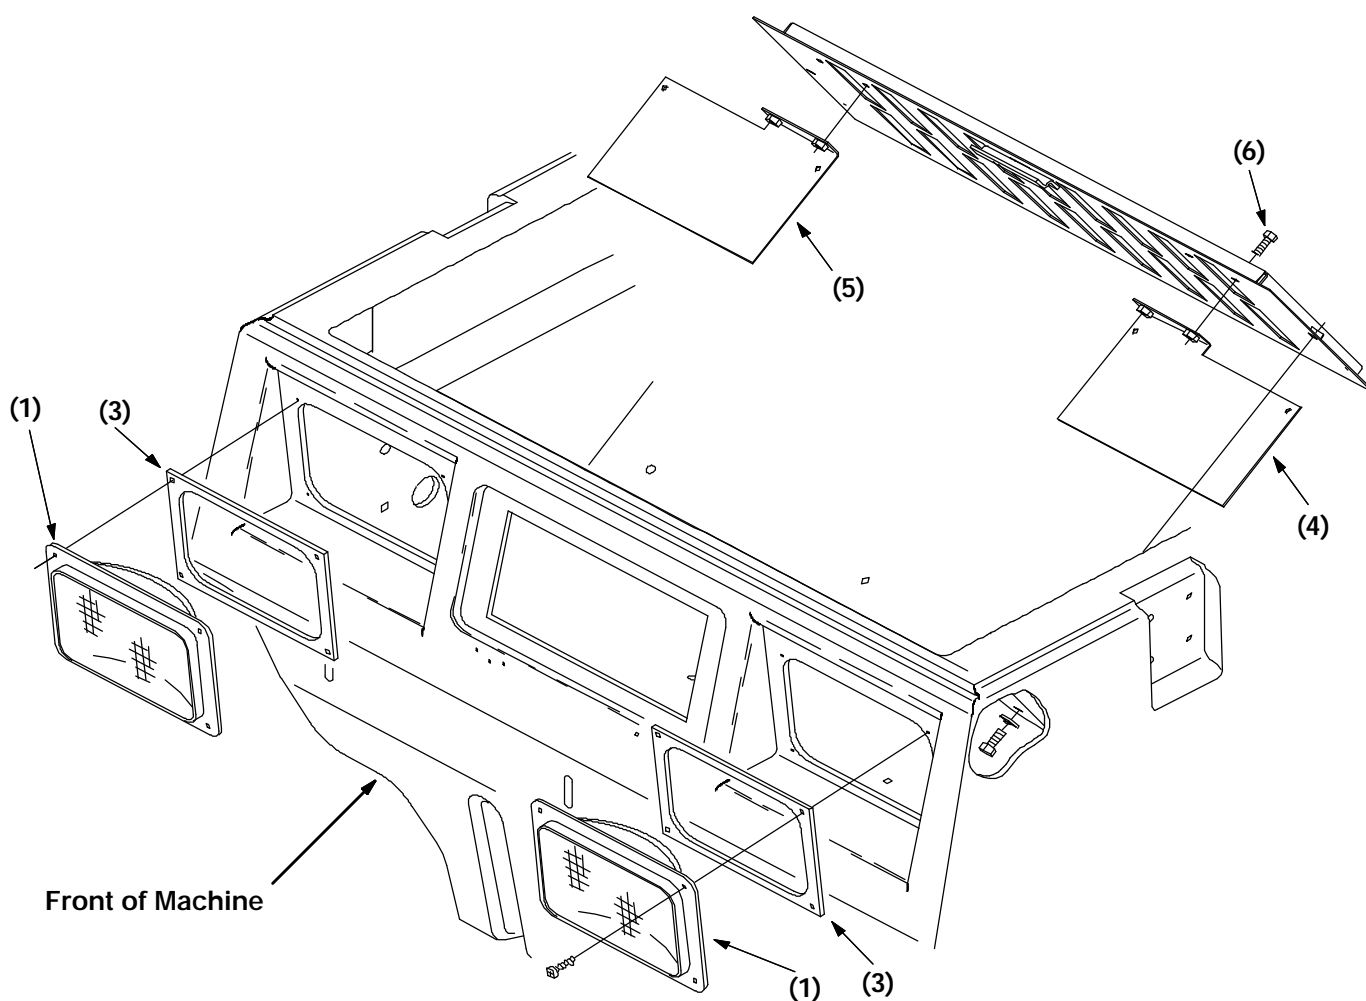

FIG. 1 - Headlight Assembly
(Refer to FIG. 1)
4. Install headlight protector plates (4) and (5) with hardware (6) provided. (Refer to FIG. 1)
5. Place headlight seals (3) onto headlights (1). (Refer to FIG. 1)